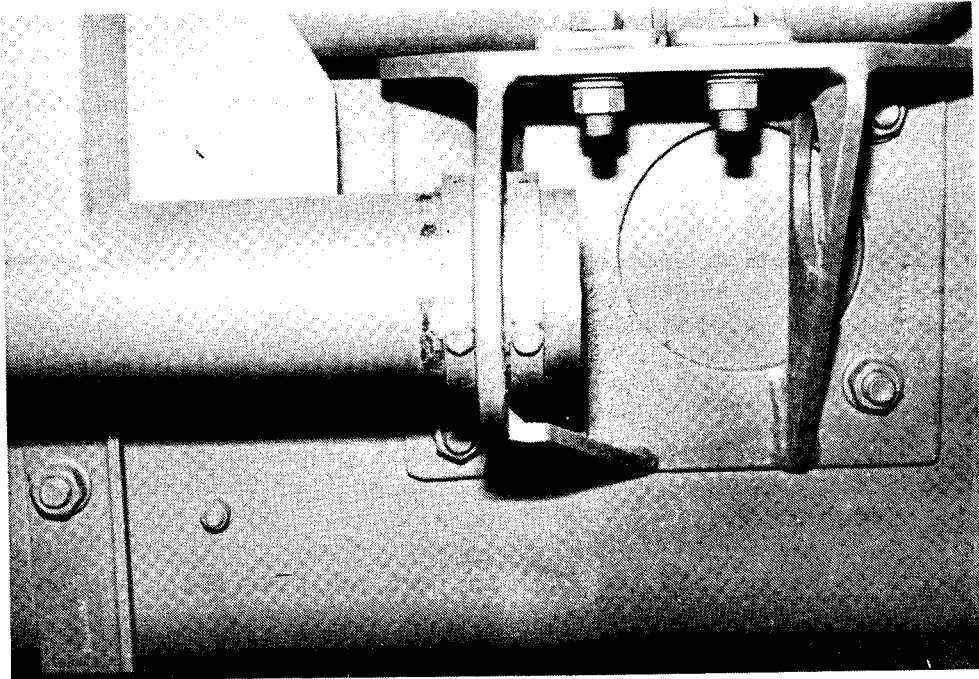

FIG 1 - COMPLETED MODIFICATION
- 7. To carry out the modification refer to Fig 1 and proceed as follows: